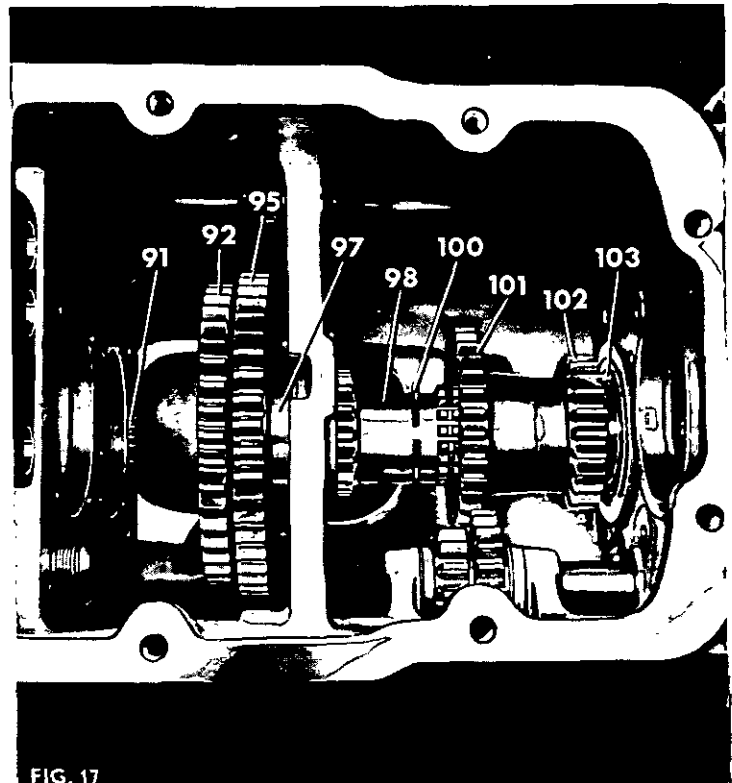
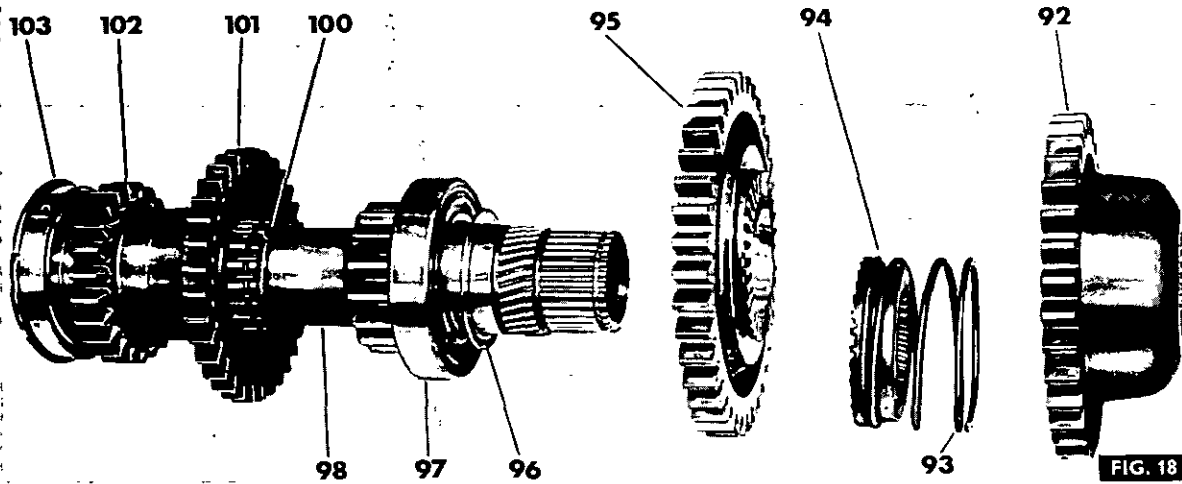
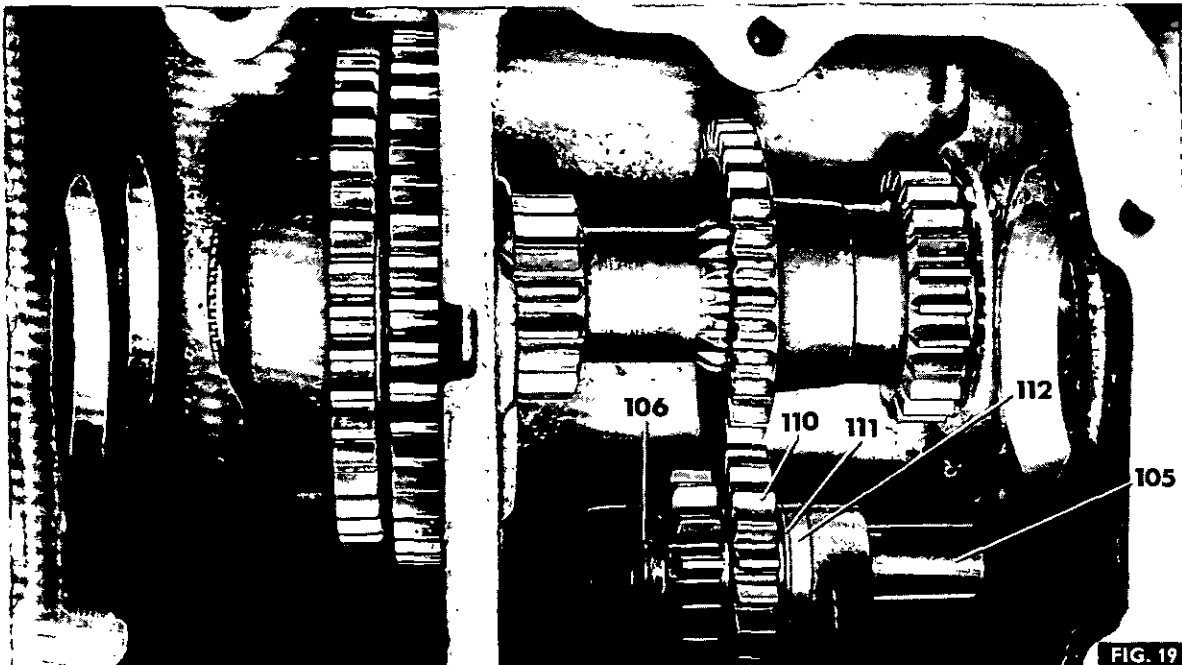
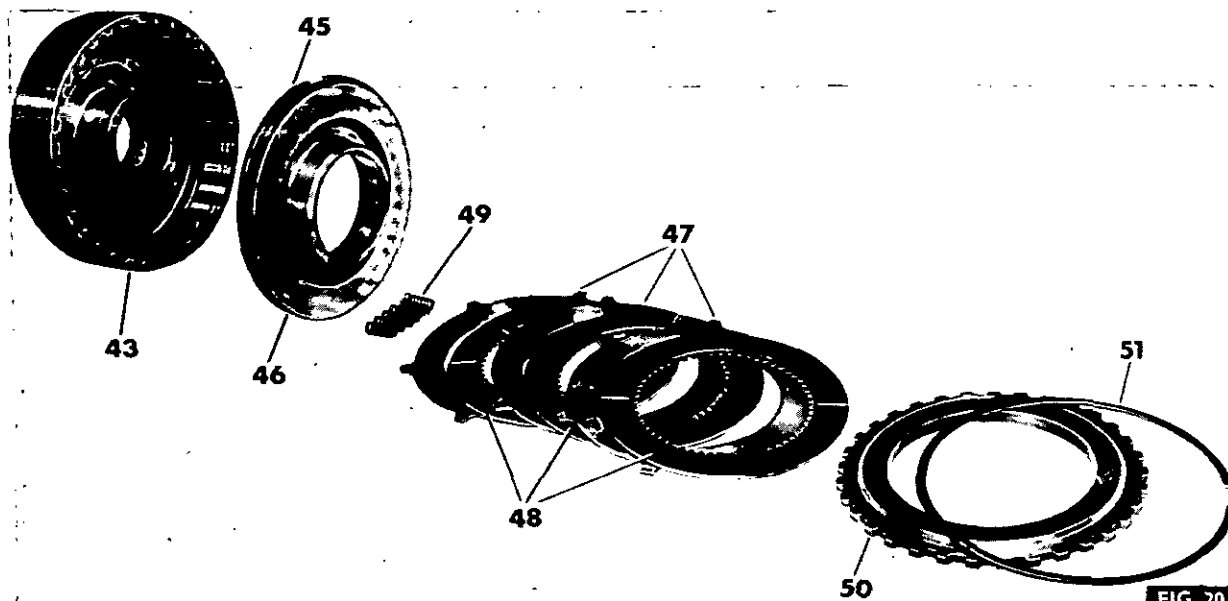

FIG. 17
FIG. 18
FIG. 19
FIG. 20
1. Fig 18. If necessary, press the centre bearing (97) on to the layshaft.
2. Fit a new snap ring (100) on to the layshaft, temporarily placing it on the unsplined portion of the shaft, adjacent to the first gear teeth.
3. Slide the layshaft into the gearbox from the front, locating the third (101) and second speed (102) gears on the splines.
4. Push the layshaft rearwards sufficiently far to permit fitment of the new thrust washer (96) the main input gear (95), the coupler (94), spring (93) and overdrive gear (92), then refit the front snap ring (91).
5. Pull the layshaft forwards to permit fitment of the snap ring (100) in the groove adjacent to the third speed gear (101).
6. Refit the layshaft rear bearing (103) then drive the layshaft fully rearwards and refit the rear snap ring (104). Ensure that the rear bearing is fully located. The layshaft is shown fully assembled in Fig 19.
7. Refit the p.t.o. constant mesh gear (88) into the transmission case, then refit the p.t.o. driveshaft (90).
1. Using petroleum jelly refit the two sets of needle rollers (108) with a spacer (109) between the rows and a retaining ring (107) at each end. A smear of petroleum jelly can be used to make the thrust washers (106 and 111) and the distance piece (112) adhere to the end face of the gear cluster.
3. Figure 19. Refit the gear cluster assembly to the transmission case, then insert the shaft (105) from the rear and push out the dummy shaft.
4. Figure 4. Refit the plate (113) a new tabwasher (114) and the bolt (115) Bend up the tabwasher. The assembled gear cluster is shown in Fig 19.
2. Fig 20. Place the clutch assembly on a flat surface, push down the retainer plate (50) and remove the snap ring (51).
3. Remove the retainer plate (50), three friction discs (48), three interplates (47) and the six return springs (49).
4. Slide the piston (46) out of the clutch housing (43).
5. If necessary, remove the piston ring (45) from the piston.
38. Drive the main input shaft (54) rearwards out of the gearbox, removing the thrust washer (42) Multi-Power clutch (43) centre thrust washer (53) and the main drive pinion (57) as the shaft is withdrawn through them.
39. Remove the input overdrive pinion (52) from the Multi-Power clutch.
41. If necessary, remove the needle roller bearing (58) from the rear end of the main input shaft.
42. Remove the p.t.o. Driveshaft (90) by withdrawing it rearwards, then lift out the p.t.o. constant mesh gear (88).
43. Remove the rear snap ring (104) from the rear end of the layshaft.
44. Fig 17. Drive the layshaft forwards, as shown, then move the snap ring (100) on to the unsplined portion of the layshaft.
45. Remove the snap ring (91) from the front end of the layshaft.
46. Fig 18. Drive the layshaft forwards, removing the overdrive layshaft gear (92), spring (93) coupler (94) main drive layshaft gear (95) and thrust washer (96).
47. Locating the layshaft rear bearing (103) in the gearbox, drive the layshaft forwards out of the gearbox, complete with the centre bearing (97).
48. Remove the second (102) and third speed (101) layshaft gears from the transmission case.
49. If necessary, remove the circlip (100) from the layshaft, press off the bearing (97), using Hand Press MF 200 and adapter MF 200-25, and remove the layshaft rear bearing (103) from the gearbox case.
50. Fig 20. Place the clutch assembly on a flat surface, push down the retainer plate (50) and remove the snap ring (51).
51. Remove the retainer plate (50), three friction discs (48), three interplates (47) and the six return springs (49).
52. Slide the piston (46) out of the clutch housing (43).
53. If necessary, remove the piston ring (45) from the piston.
- Using petroleum jelly refit the two sets of needle rollers (108) with a spacer (109) between the rows and a retaining ring (107) at each end. A smear of petroleum jelly can be used to make the thrust washers (106 and 111) and the distance piece (112) adhere to the end face of the gear cluster (110).